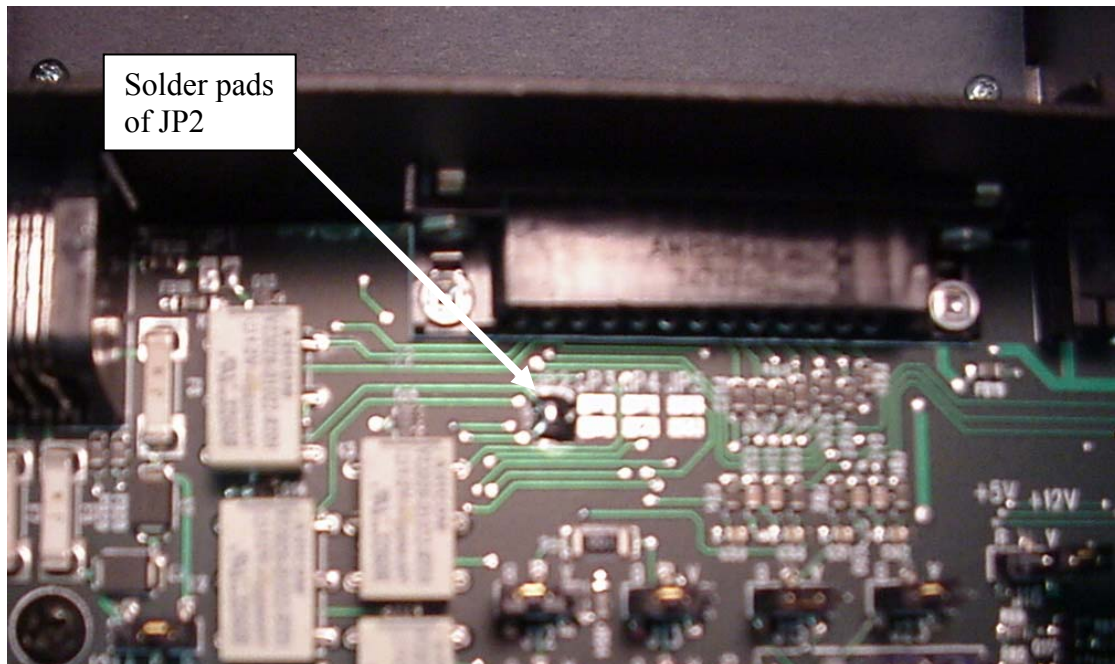

**Figure 2 – Serial Adaptor PCB Location**
3. Carefully press the PCB into place. Make sure the arrow on the adaptor PCB is pointing towards the back panel. See Figure 2.